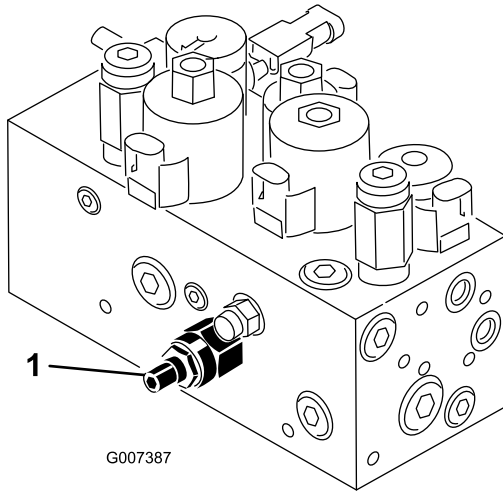

Figure 57
The cutting unit lift/drop circuit is equipped with a flow control valve (Figure 57). This valve is preset at the factory at approximately 3 turns open, but an adjustment may be required to compensate for differences in hydraulic oil temperatures, mowing speeds, etc. If an adjustment is required, proceed as follows:
1. Raise the seat and locate the flow control valve for the center pull frame (Figure 57) which is located on the side of the hydraulic manifold.